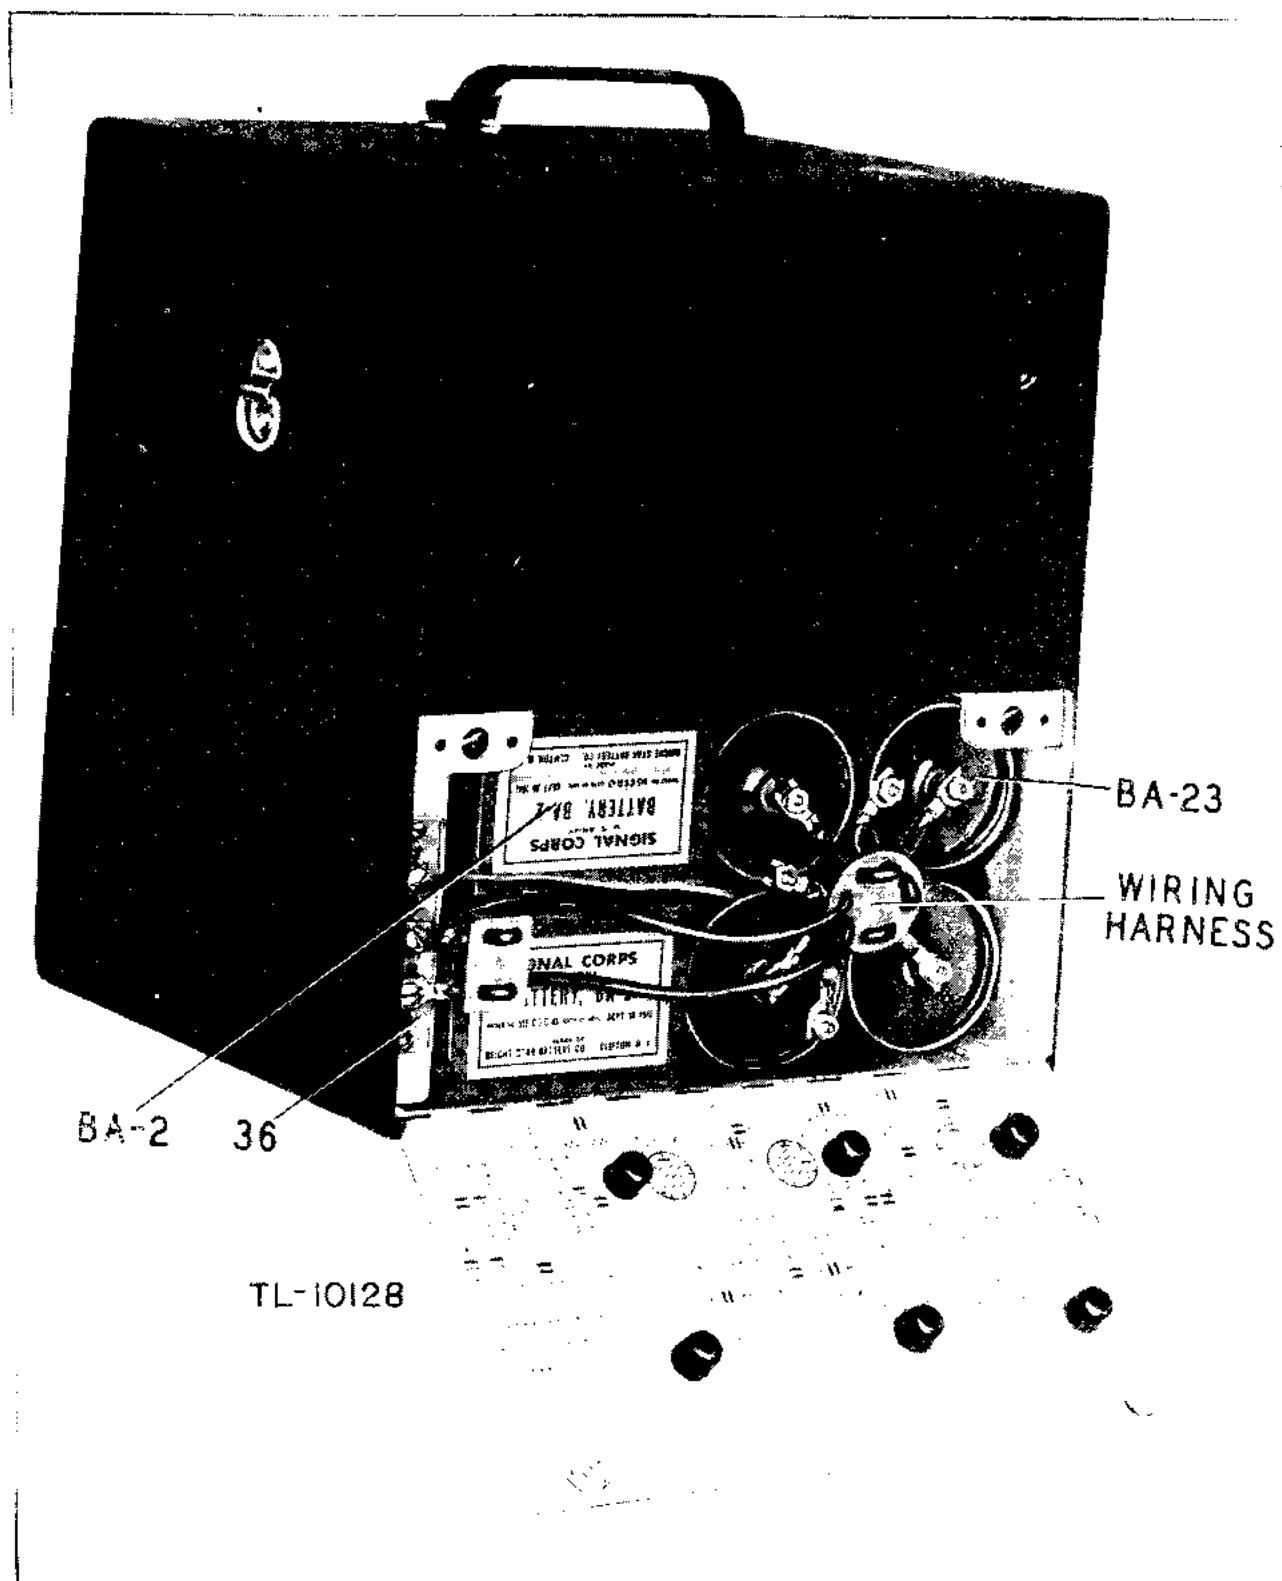

Figure 19. Use of wiring harness with battery installation, in metal cabinet.
b. The principal component of the set is Frequency Meter BC-221-(&), a heterodyne-type frequency meter, which is supplied in either of two types of cabinet: a black wrinkle-finished aluminum-alloy cabinet (fig. 1), or an olive-drab finished wooden cabinet. (See fig. 2.) The upper and largest compartment of the cabinet contains the frequency meter chassis and sometimes some of the spare parts. The next smaller compartment, at the bottom rear, contains the batteries. The smallest compartment, at the bottom front, contains either spare parts or the headset. (See figs. 19, 20, 21, and 25 for representative views.) A carrying handle and one or two snap latches are mounted on the top surface of the cabinet. Two small rings to which carrying Strap ST-19-A can be hooked, are mounted at the sides of the cabinet. The BC-221-Q, BC-221-AA, BC-221-AC, BC-221-AE, BC-221-AF, BC-221-AG, BC-221-AH, BC-221-AJ, BC-221-AK, and BC-221-AL frequency meters are normally supplied with the wooden cabinet. Some BC-221-Q and BC-221-AA frequency